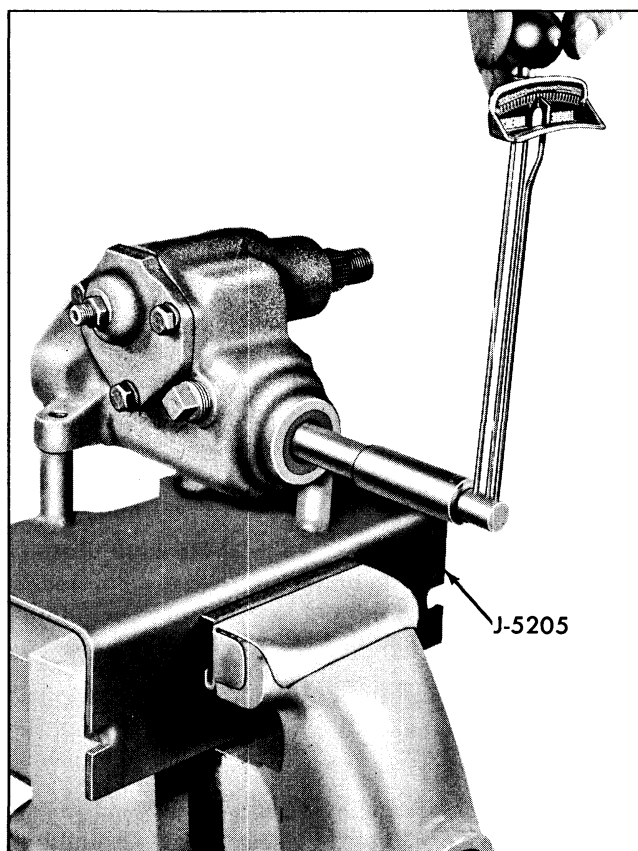

Fig. 9-43 Adjusting Worm Gear Through High Point
b. Tighten pitman shaft adjusting screw as necessary to obtain a reading of 1 to 2 lb. ft. torque when the worm gear is turned through the high point (Fig. 9-43).